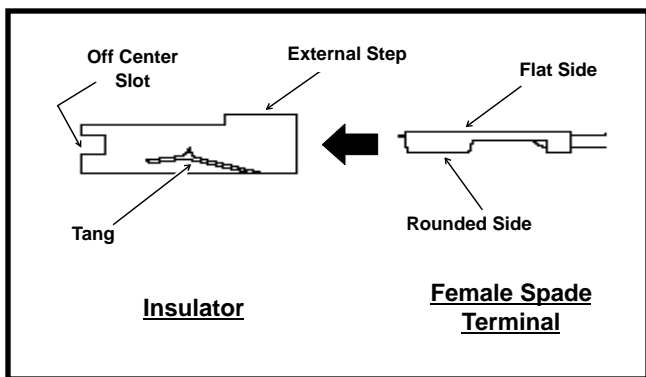

Figure 5. Install Insulators on Female Spade Terminals
6. Insert the female spade type terminal into the insulator. Be sure the flat side of the spade faces the external step on the insulator (see Figure 5). The insulator will snap or click into place when fully installed.